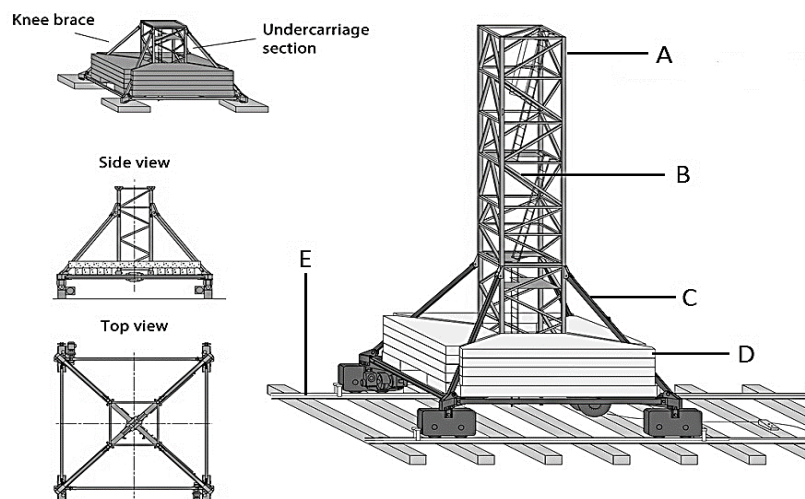

FIGURE 4
- 7.2 Label the different parts of a tower crane mounted on a bogie (A–E) in FIGURE 4 below. Write only the answers next to the letter (A–E) in the ANSWER BOOK.